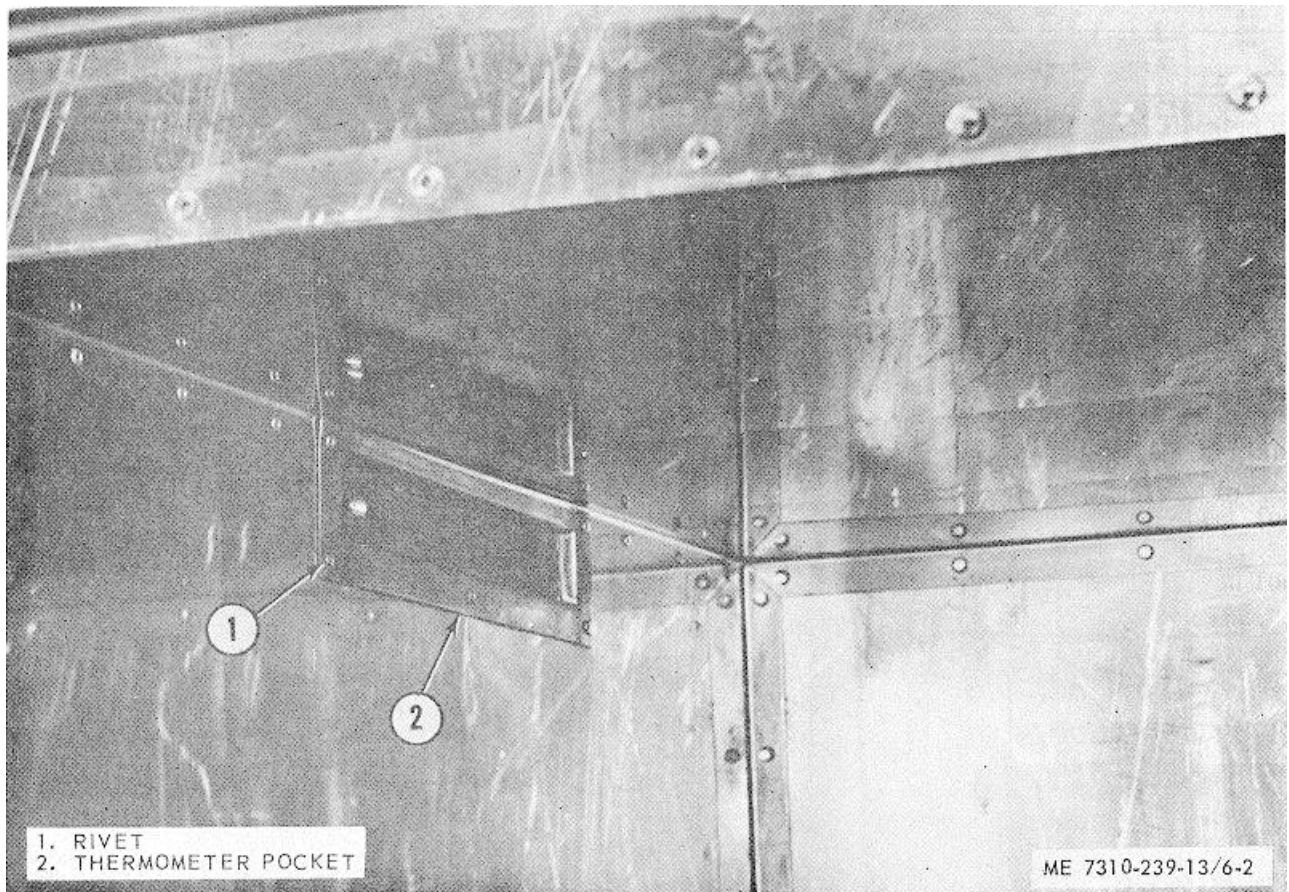

Figure 6-2. Thermometer pocket, removal and installation.
- (1) Remove the thermometer, tube, and coupling (para 4-11 and 4-12).
- (2) Remove rivets (1, fig. 6-2) that secure thermometer pocket (2) to the inside wall of the center baking compartment.
- (3) Lift out thermometer pocket.